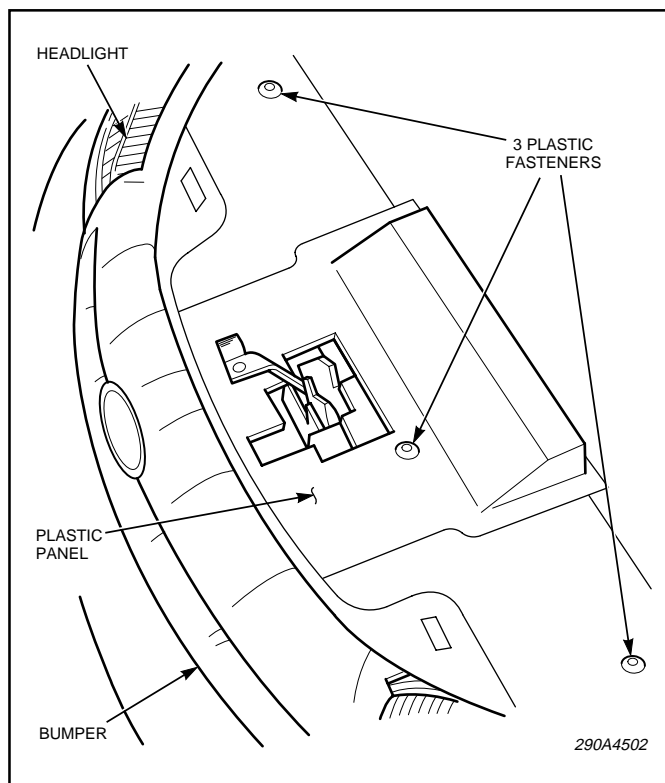

Figure 1.
1. Raise the vehicle hood. See figure 1. Locate the plastic panel between the radiator crossbar and the grill fascia.
8. See Figure 1. Replace the plastic panel (removed in step 2) and secure in position using the previously removed plastic quarter-turn fasteners.